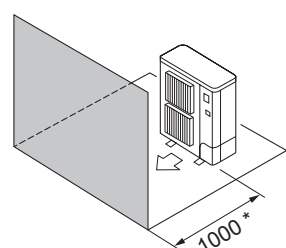

Fig. 2-10
- (4) Obstacles at front only (Fig. 2-10)